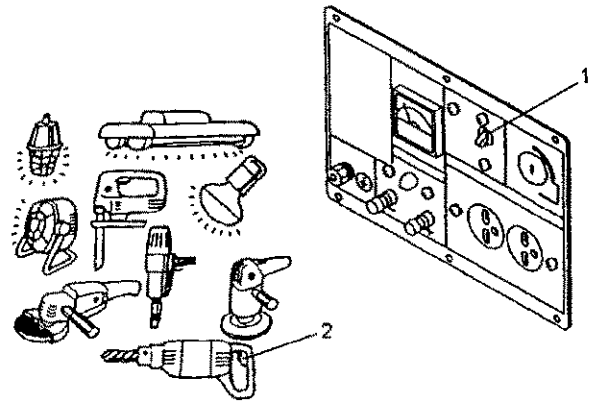

Fig. 9.4.3-1
- ① Turn breaker 1 of the diesel generator off. If loads are connected, turn power switch 2 of all loads off. (Fig. 9.4.3-1)
- ② Set the governor lever 3 to RUN. (Fig. 9.4.3-2)
- ③ Slowly pull the grip 5 of recoil starter 4 until it is felt heavy (compression start position).
- ④ Return the group to the original position 6.
- ⑤ Set the decompression lever 7 to the no-compression position.